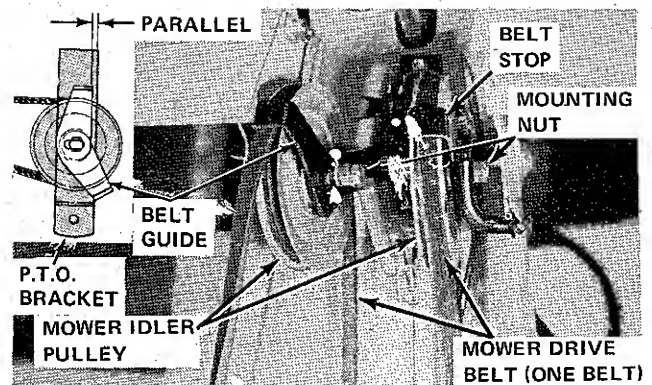

Figure 6-11. Mower Clutch Assembly
2. Loosen belt stop and pulley mounting nuts (Figure 6-11) and position belt stop so that stop fingers allow for belt removal. Remove mower drive belt from mower idler pulleys.